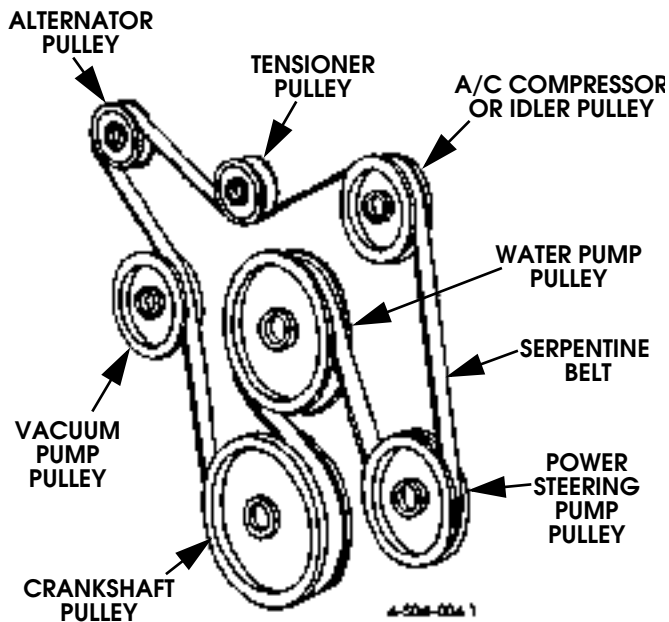

Figure 2-16: Serpentine Belt Installation
3. Install serpentine belt on all pulleys except belt tensioner (Figure 2-16). Turn tensioner counterclockwise with breaker bar and slide belt onto tensioner. Then release breaker bar so tensioner can rotate clockwise to adjust belt.
8. Install serpentine belt (Figure 2-16).